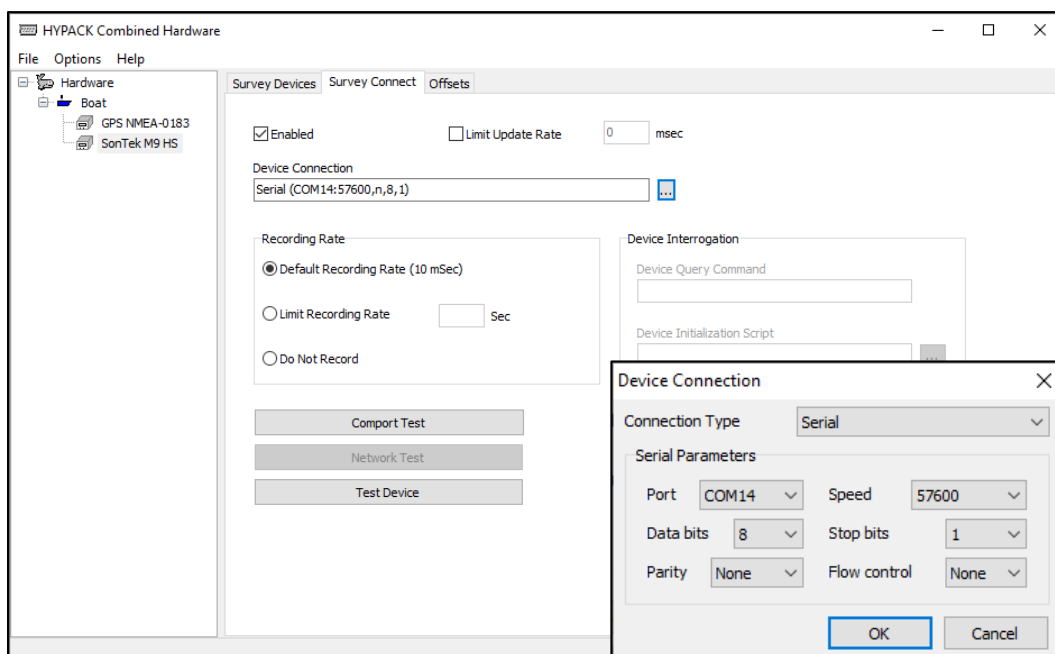
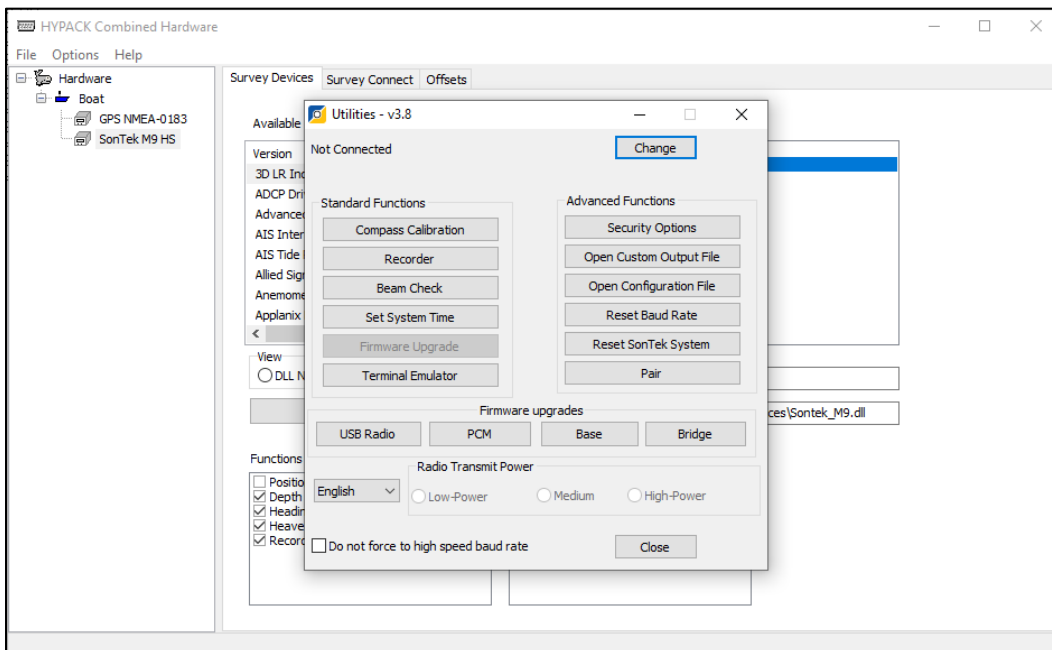

Figure 8.—Device Connection popup window under the Survey Connect tab within the HYPACK Combined Hardware window.
Figure 9.—SonTek Utilities home screen where Compass Calibration can be accessed.
2. While still within the HYPACK Combined Hardware window, select the “**Survey Connect**” tab (to the immediate right of the Survey Devices tab). Ensure the “Enabled” box is checked and the “Limit Update Rate” box remains unchecked (default); the rate should be left at “0 msec.” Click on the small box containing ellipsis, just right of the long Device Connection box. In the Device Connection popup window, the user can connect to the SonTek M9 device with the following settings (figure 8):
Note: Verify the “Default Recording Rate (10 mSec)” radio button under Recording Rate is selected (figure 8).
- Verify the SonTek M9 device is selected under the Hardware and Boat mobiles on the left side of the HYPACK Combined Hardware window and then select “Options” from the menu bar (figure 8 or 9). Select “SonTek Utilities,” then click on “Compass Calibration” under standard functions (figure 9) to access the compass calibration routine.